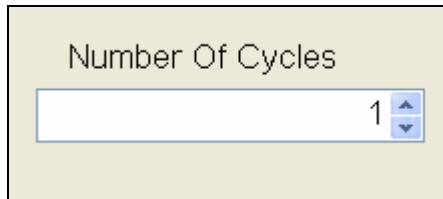

Figure 17.1.8
- Next you will need to enter the number of cycles. Use the **UP** and **DOWN** arrows to adjust the cycles (Figure 17.1.8).